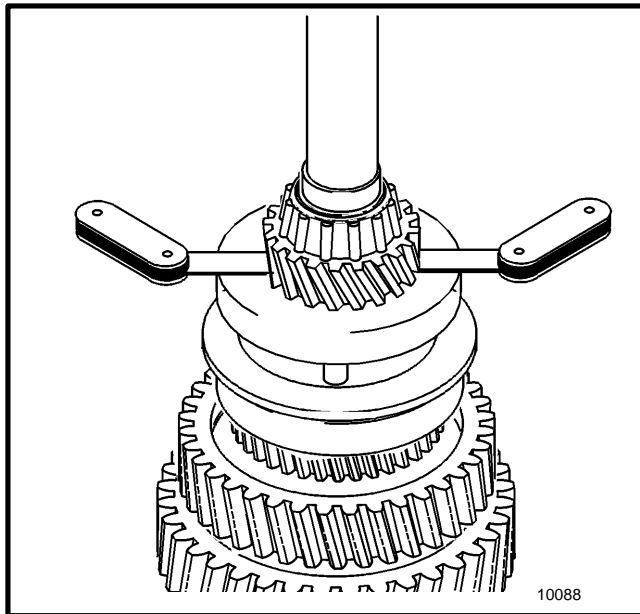

FIGURE 17. CHECK THE CLEARANCE BETWEEN THE STOP RING AND GEAR
16. Install the thrust bearing. Temporarily install the input shaft with the synchronizer stop ring on the end of the mainshaft. Measure the clearance between the synchronizer stop ring for fourth gear and the teeth on the input shaft gear. See FIGURE 17. The clearance must be 1.6 to 2.1 mm (0.063 to 0.081 in). If the clearance is greater than 2.1 mm (0.081 in), put shims between the third gear teeth and the synchronizer stop ring. When the clearance is correct, remove the input shaft and thrust bearing from the mainshaft.